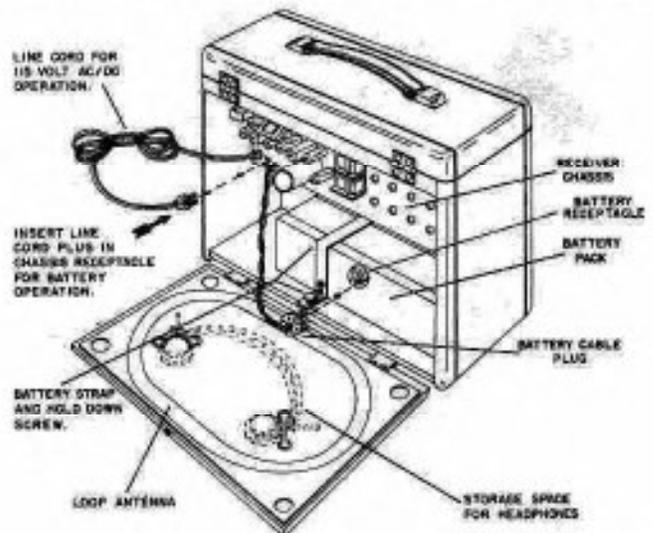

FIG. 2 REAR VIEW, REAR DOOR OPEN
1. Select one of the 90 volt - $7\frac{1}{2}$ volt battery packs listed on page 4. Refer to Fig. 2 for an illustration of the battery installation.
3. Storage space for the headphones is provided on the rear door of the cabinet. See Fig. 2.